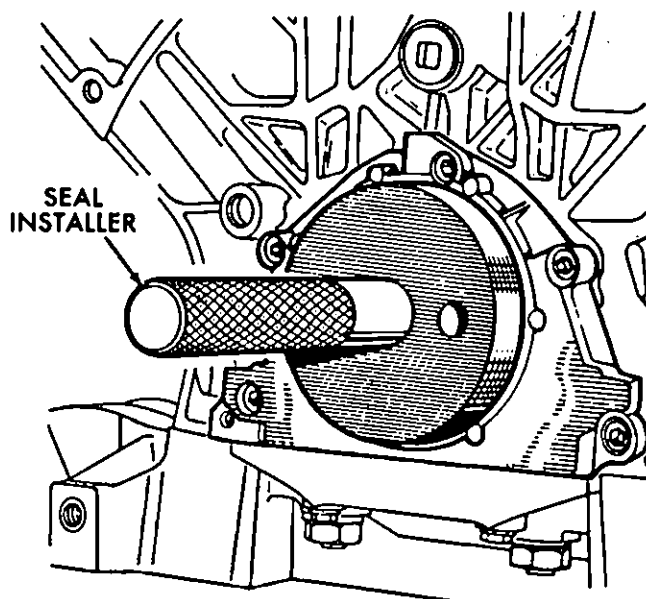

Fig. 2—Seal Installer Tool 6482
- (1) Use a new gasket and install the seal housing to the cylinder block.
- (2) Loosely install all bolts including the casing to seal housing bolts.
- (3) Tighten the seal housing to block bolts first. Then tighten the casing to seal housing bolts. Tighten the mounting bolts to 12 N·m (9 ft-lbs) torque.
- (4) Lightly oil the inner and outer edges of the new seal.
- (5) Place the new seal on seal installer (Tool 6482) (Fig. 2).
- (6) Install the new seal by gently tapping the end of Tool 6482 until the tool stops.
- (7) Remove Tool 6482 turning the tool while pulling it out.